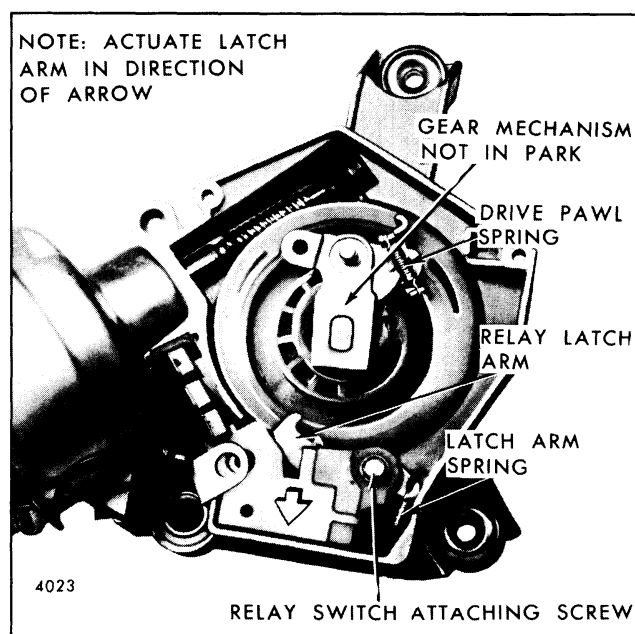

Fig. 2-29-Latch Mechanism
1. Observe if relay latch arm spring is connected properly (Fig. 2-29).
3. If items in 1 and 2 check out, connect power source to wiper and connect jumper wire from terminal No. 3 to wiper housing. **DO NOT** make any connections from terminal No. 1. Manually actuate latch arm in direction of arrow (Fig. 2-29) and observe if it remains in energized position (inside plastic switch housing out of path of gear drive pawl). If it remains in energized position, check for grounded red lead from coil to terminal No. 1. If red lead is not grounded, coil is probably grounded internally and relay switch should be replaced.
1. Check that drive pawl and relay latch arm springs are properly connected (Fig. 2-29).